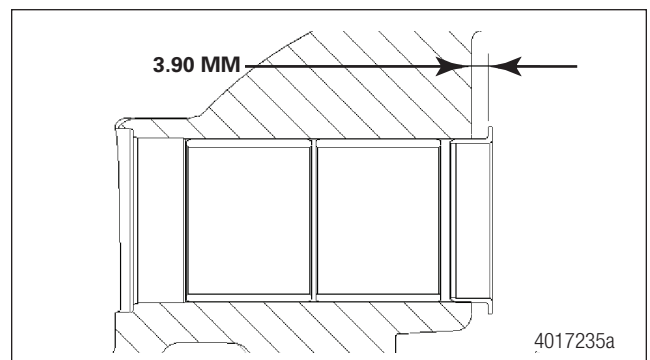

Figure 8.13 Slide Pin Bushing Depth Measurement
3. Use the applicable parts of Meritor tool MST 1000 to draw the retainer into the slide pin bore until the flat face of the retainer is 0.15-inch (3.9 mm) from the end of the slide pin bore. Figure 8.13.